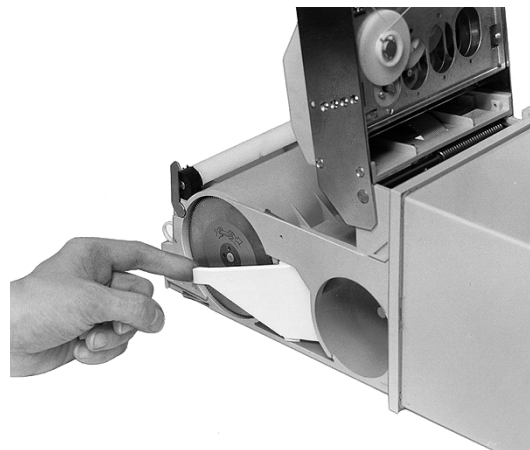

Figure 16 Unfolding the holder of the chart roll
3. Unfold the holder of the chart roll up to the stop (see Figure 16).